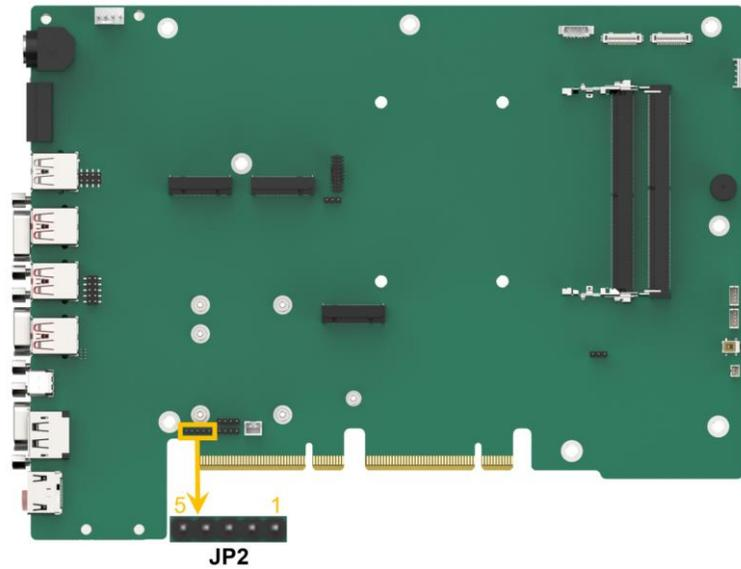

Figure 4-21: Power Delivery Firmware Updating Connector Location
- CN Location:** See **Figure 4-21**